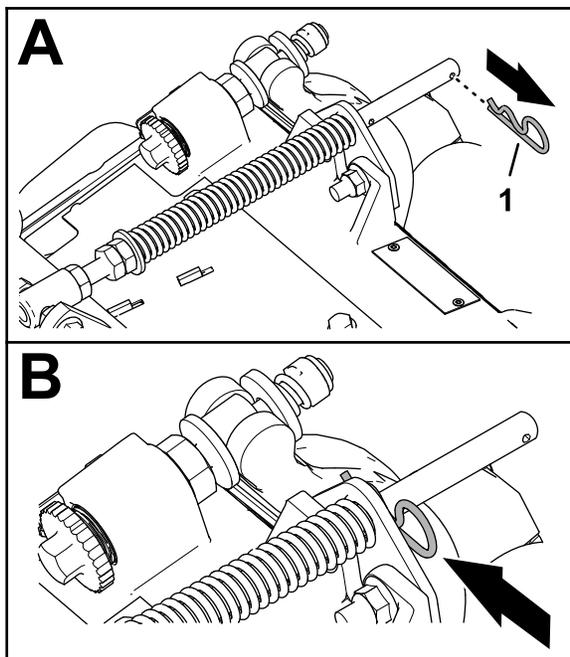

Figure 10
1. If the hairpin is installed in the rear hole of the compensation-spring rod—remove the hairpin and insert it in the hole next to the bracket (Figure 10).